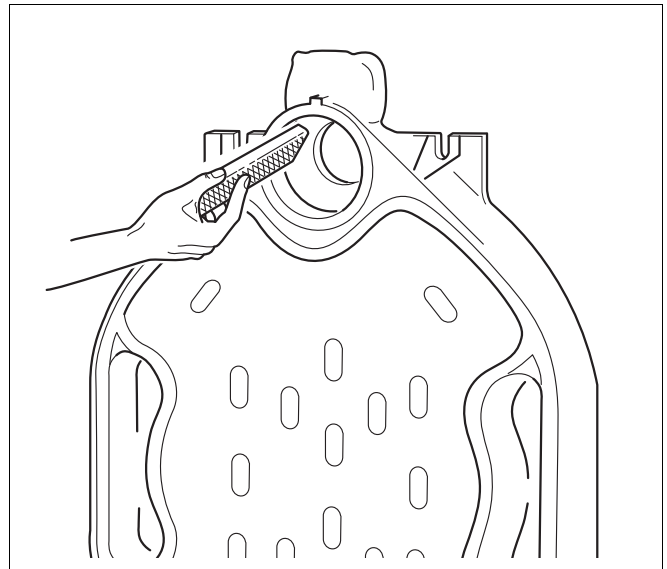

Fig. 7 Burr removal
- Remove possible burrs from the hub using a file (→ Fig. 7).
- Remove any burrs from the hub using a file (see Fig. 7).